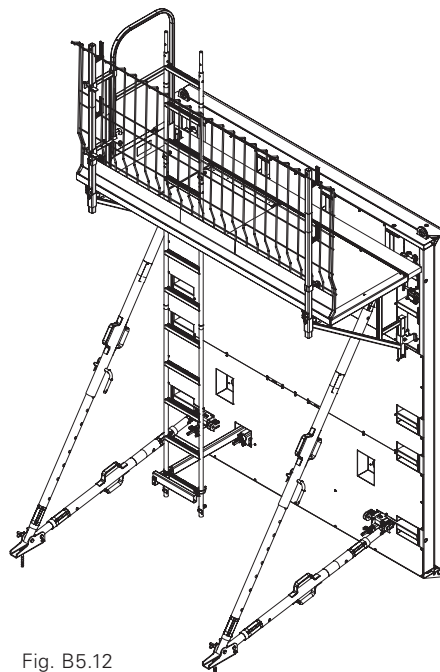

Fig. B5.12
3. Position timber. (Fig. B5.12 + B5.13)